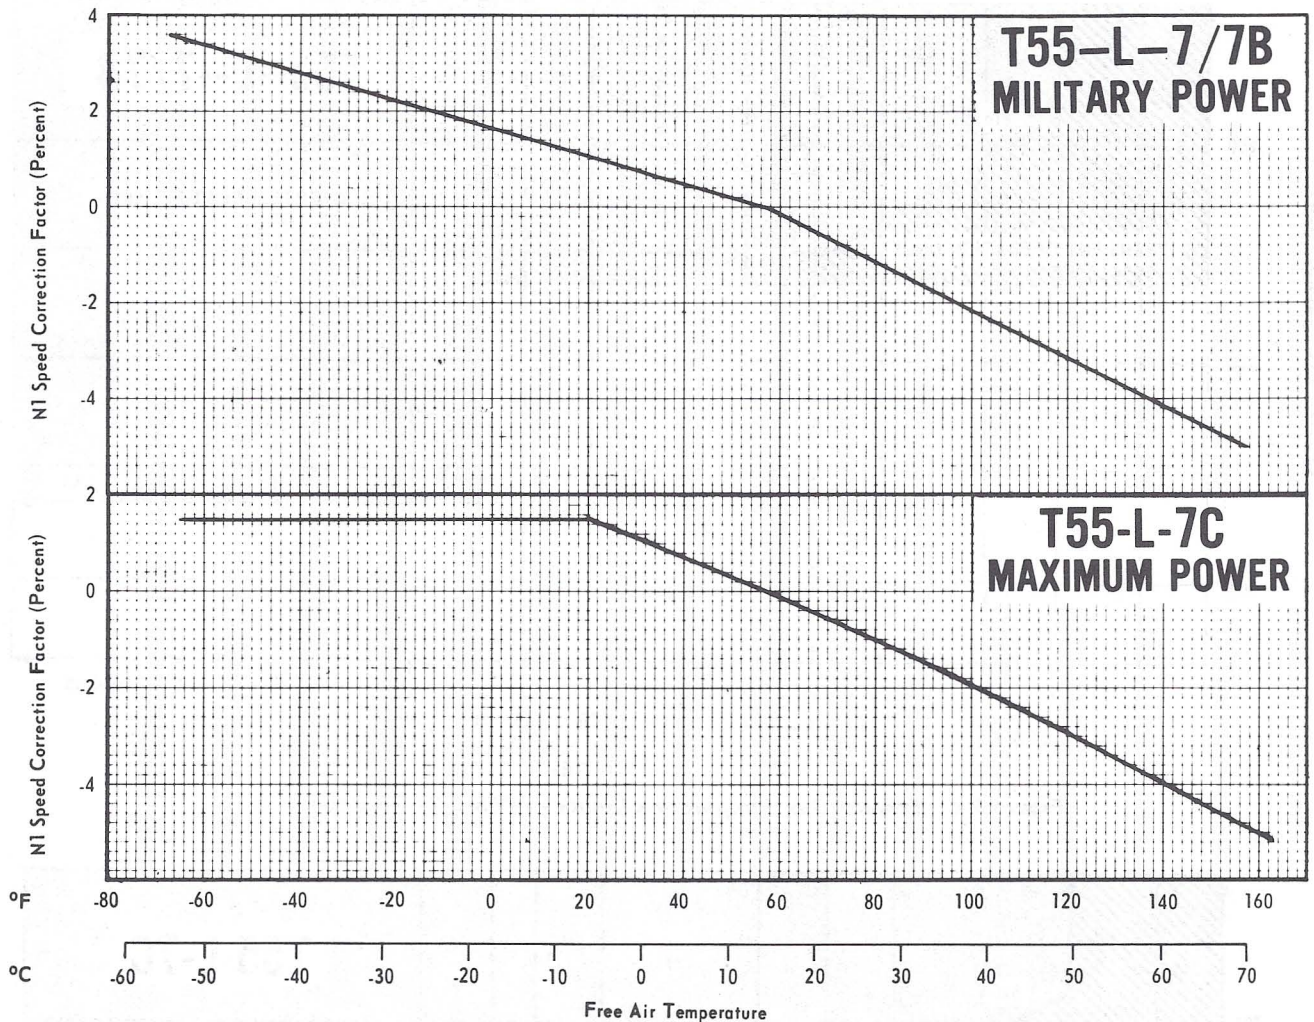

Figure 5-3. Variation in Gas Producer Speed (N1)
- a. From figure 5-3, determine the N1 correction for the existing free air temperature.